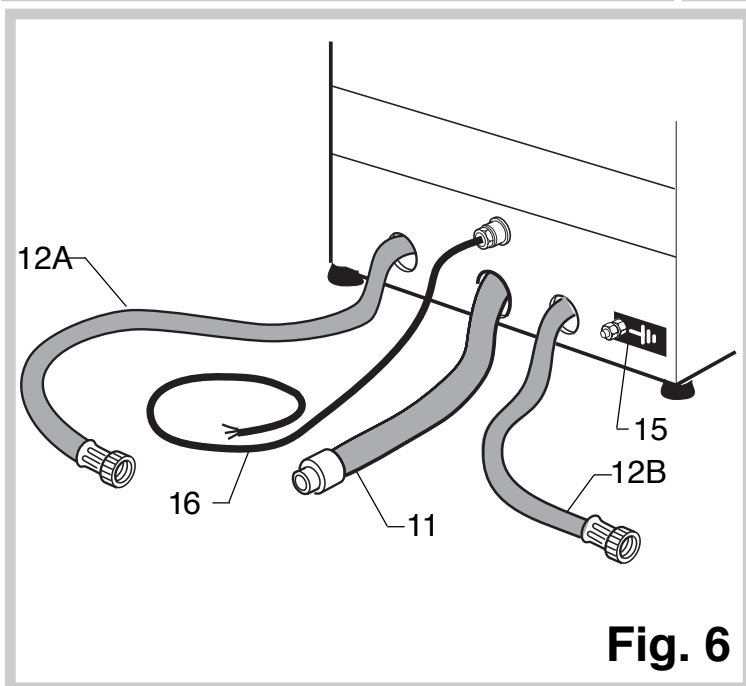

Fig. 6
3.1.a Connecting the drain pipe (Fig. 6)
- Fix the drain pipe (11) to the relative preset outlet.
3.1.b Connection to the cold water main EVF (Fig. 6/7)
3.1.c Connection to the hot water main EVC (Fig. 6/7)